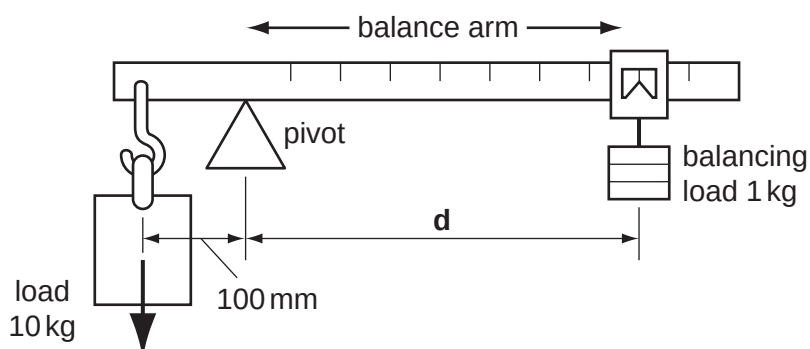

Fig. 6
- (c) Fig. 6 shows a weighing device.